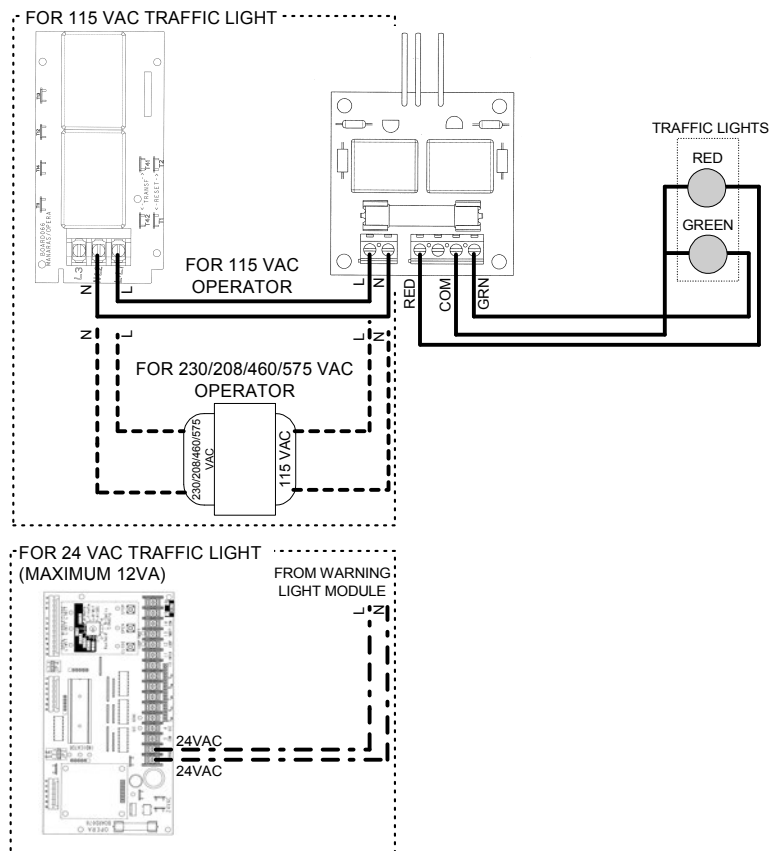

Figure 3 - Wiring Diagram
- b) Connect traffic light as per Figure 3 below.
- d) Connect traffic light as per Figure 3 below.
- g) Connect traffic light as per Figure 3 below.